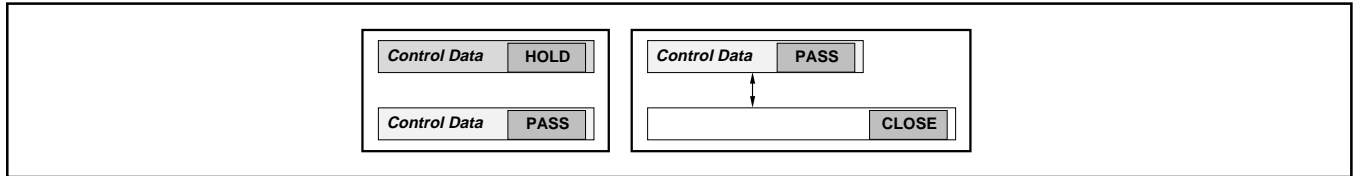

FIGURE 7. Control Data Status.
To set the mode registers, double-click on Attenuate (A), Function (F), or DataForm (D) from the main menu. Each register will appear and have a “HOLD” or “PASS” selection for Control Data (see Figure 7). In “HOLD”, only the data displayed on the screen changes until “OK” is selected or “HOLD” is changed to “PASS”. If “CANCEL” is selected, register data remains unchanged. In “PASS” mode, you can simultaneously change data on the screen and the control register data for the PCM1716. Select “CLOSE” to exit this menu.